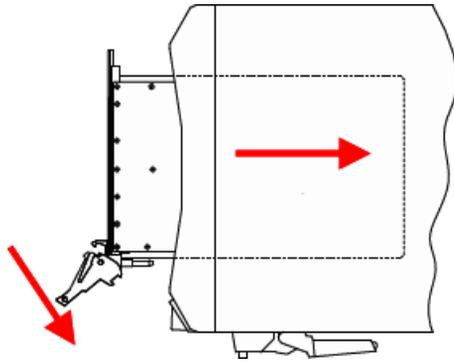

Figure 2-3 Installing the module to the chassis
- 5** Hold the module by the injector/ejector handle, and slide it into an available PXI (or hybrid) slot, as shown in **Figure 2-3**.